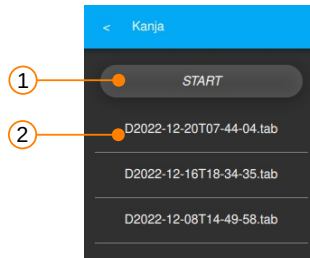

Figure 14: Illustration of the recorder window before start.
Figure 14 shows the situation before the **Start** button is pressed. ① is the **Start/Stop** button and ② is a list of recorder files.